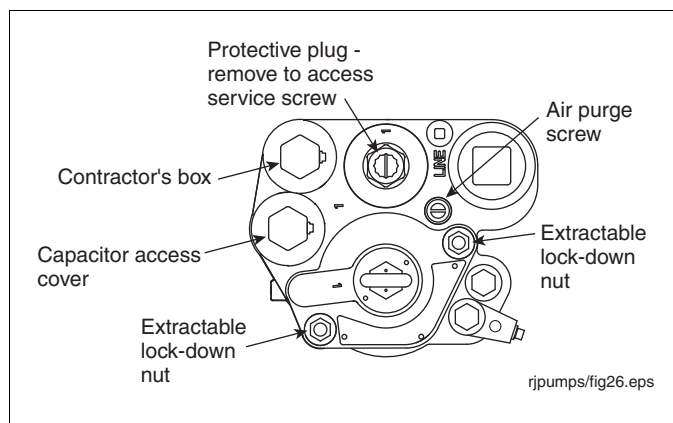

Figure 37. Extractable lock-down nuts
2. Remove the two extractable lock-down nuts (see Figure 37). The springs on the lock-down studs between the extractable's flange and the manifold will push it up, breaking the seals.
20. Turn the air purge screw 2 - 3 turns counterclockwise (see Figure 37).